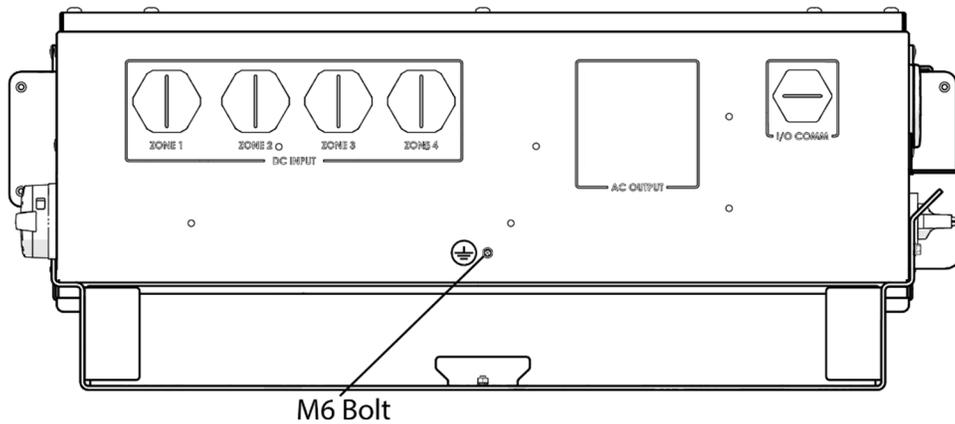

Figure 3-9 M6 Ground Connection Bolt
Install one (1) M6 x 1.0, 12mm screw in the bottom of the Wire Box for the external auxiliary equipment grounding connection, as shown in Figure 3-9. If this connection will have a conductor landed, leave screw finger tight, otherwise torque to 40 in-lbs. (4.5 N-m) using a 10mm socket.